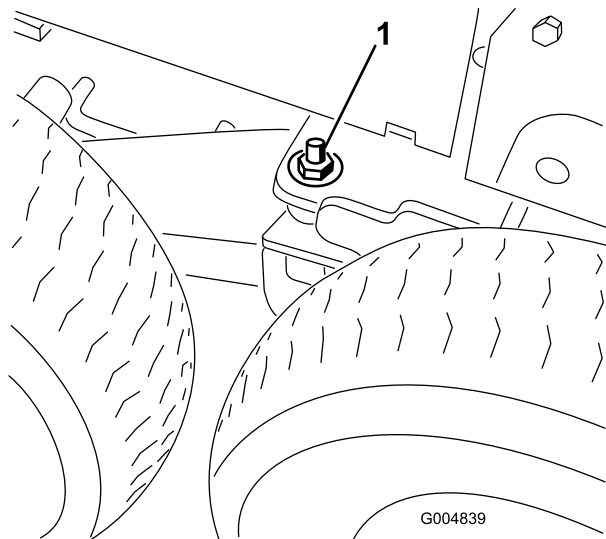

Figure 133
3. Loosen and remove the locknut and flat washer from the bogie pivot weldment (Figure 133).
6. Lower the floor jack until the front wheels support the frame. Install the flat washers (1/2 inch) and locknuts on the bogie pivot stud (Figure 133). and torque to 75 ft-lb (102 N·m).